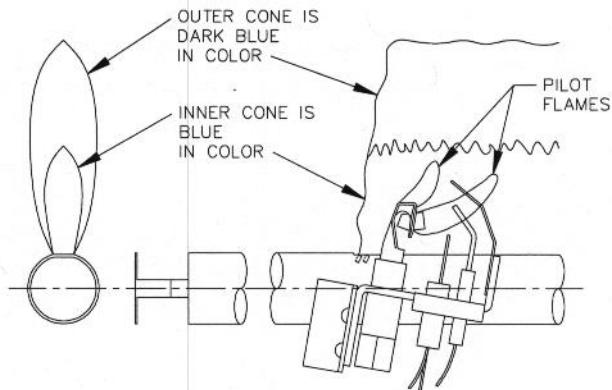

Figure 5: Intermittent Ignition Pilot Flame
4. Check pilot flame. See Figure 5. The pilot flame should be medium blue. If the flame is yellow and lazy, follow instructions TO TURN OFF GAS TO APPLIANCE (see Figures 3 & 4), and contact a qualified service agency.
5. Check main burner flames. See Figure 5. The flames should have clearly defined inner cones approximately 1-1/2" high and should have a very sharp blue color characteristic. If the flame is yellow and lazy, follow instructions TO TURN OFF GAS TO APPLIANCE (see Figures 3 & 4), and contact a qualified service agency.